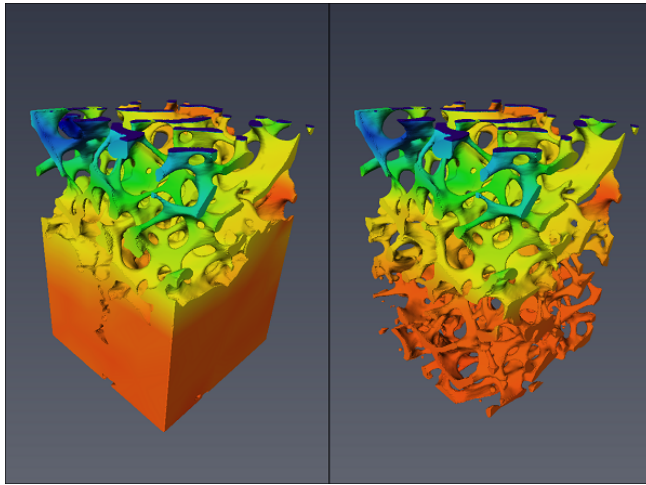

Figure 23.17: 3D Visualization of the Axial Strain in the Bone-Cement (left) and Bone phase (right)
- Using the *Buffer* port, click on **Clear** action button then select a Material of interest (bone or cement) and click on **Add** action button to display it. (see Figure 23.17).